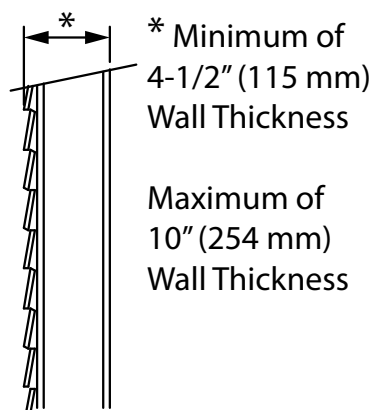

Figure 7
2. Taking into account the minimum clearances mentioned in table two, locate the closest wall stud (which will serve to hold the appliance) and mark the square hole center at a distance "A", (if wall stud is at the right), or "B", (if the stud is at the left) (see table 2 and Figures 7 and 8). Note: Use the heat shield to help hold the bracket in place when marking the square hole locations. Note: At least one side of hanging bracket must be attached to a wall stud.
Measure thickness of the wall as shown in figure 7.